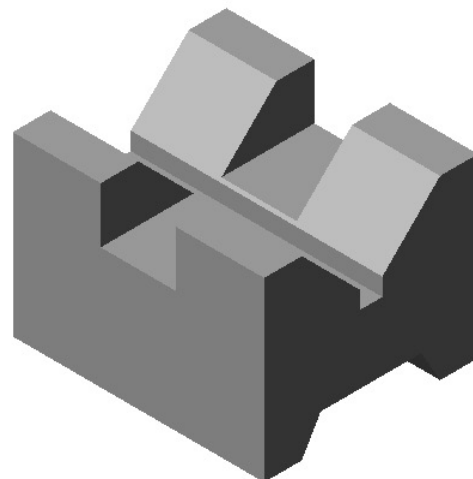

Figure 25 V-Block Model
- 17) Click **OK**  to finish the cut. The final part is shown as in Figure 25.
Once features are created, they are listed in the *FeatureManager Design Tree* as shown in Figure 25 with default names. You may have slightly different default names. Those names could remain as they are, but, it is recommended to change the default names to make the features recognized easily: